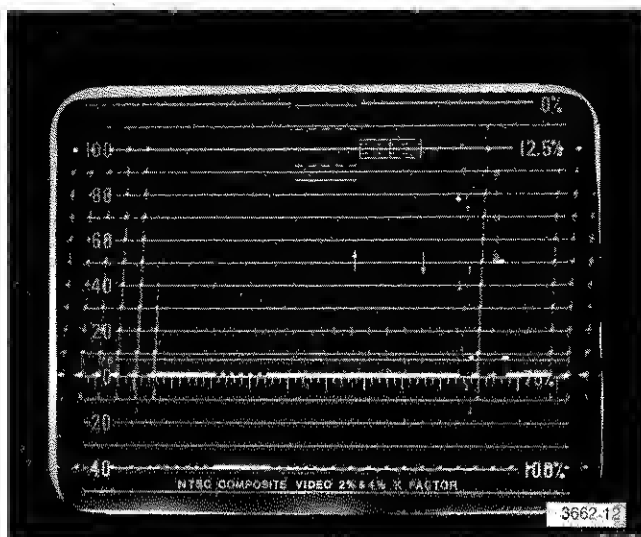

Fig. 2-10. Display of a 10-step modulated staircase signal with the RESPONSE switch set to FLAT and the SWEEP switch set to 2 V MAG.
18. Set the SWEEP switch to 2V MAG. A magnified display of the vertical blanking interval should be obtained. Set the POSITION controls as necessary for best viewing. A typical display is shown in Fig. 2-10.